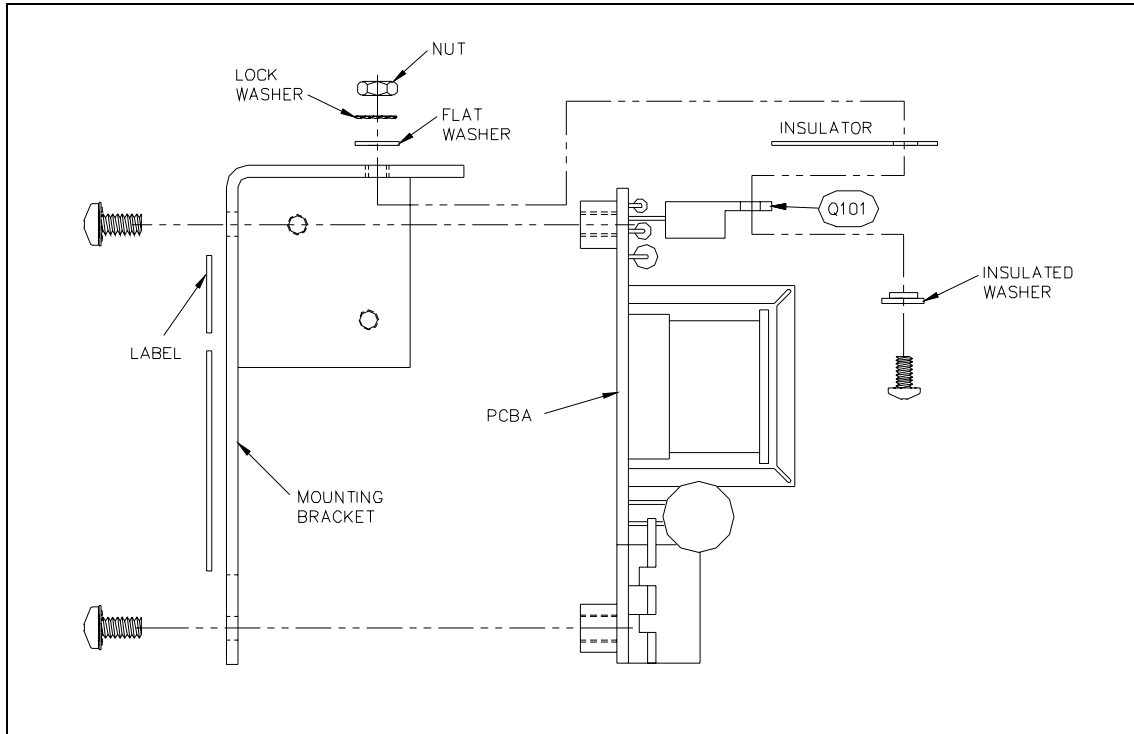

Figure 1. VLC Assembly
1. Remove the hardware securing Q101 (tabbed transistor) to the VLC PCBA mounting bracket. See Figure 1. Make note of the placement of the Q101 mounting hardware pieces so that it is re-assembled correctly later.
6. Reinstall Q101's mounting hardware taking extra care to ensure the correct orientation of the insulator to avoid a possible short of the transistor collector tab to the ground. See Figure 1.